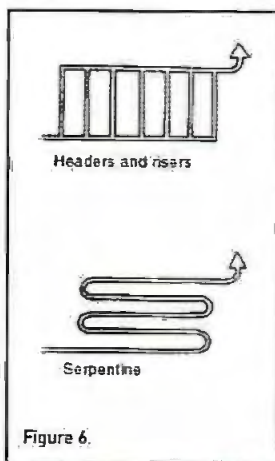

Figure 6.
- some commercial flat plate collectors have a serpentine pipe layout, rather than a number of parallel risers, which is not suitable for thermosiphon systems (see Fig. 6)